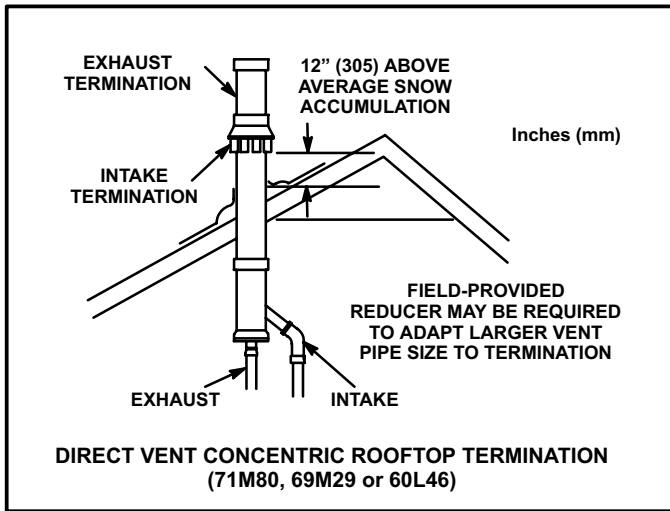

**FIGURE 24**
Intake and exhaust pipes may be routed either horizontally through an outside wall or vertically through the roof. In attic or closet installations, vertical termination through the roof is preferred. Figures 24 through 32 show typical terminations.
3. On roof terminations, the intake piping should terminate straight down using two 90° elbows (See figure 24).